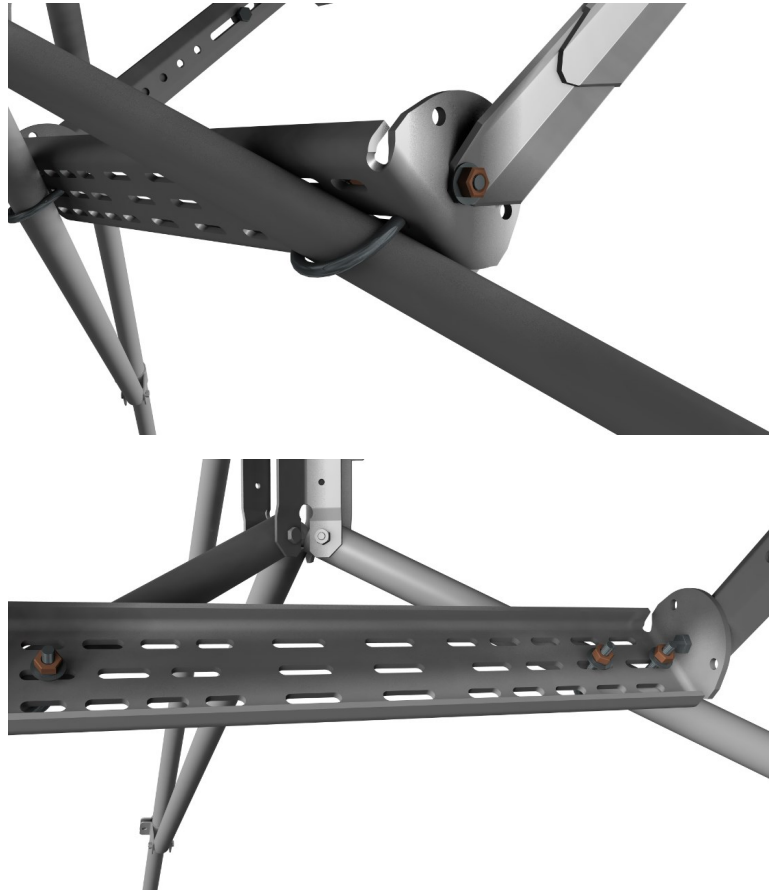

FIGURE 3-6. Attaching the lower mount bracket to the tripod legs
7. Place the lower mount bracket against the tripod leg braces as shown (FIGURE 3-6 (p. 9)). Use U-bolts, washers, lock washers, and nuts from the hardware bag labeled 'Tripod' to mount the bracket on the tripod legs. It may be necessary to rotate the U-bolt so the ends of the bolt pass through holes on different rows in the lower mount bracket. Finger-tighten the nuts. Skip to Extended mount orientation (p. 20).